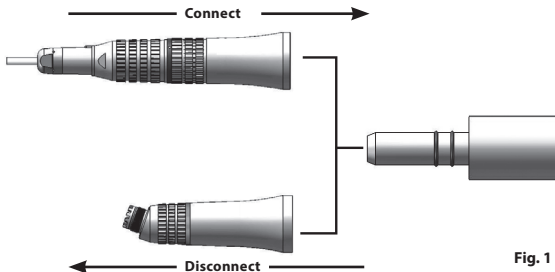

Fig. 1
**CONNECTING / DISCONNECTING ATTACHMENTS (Fig. 1)**